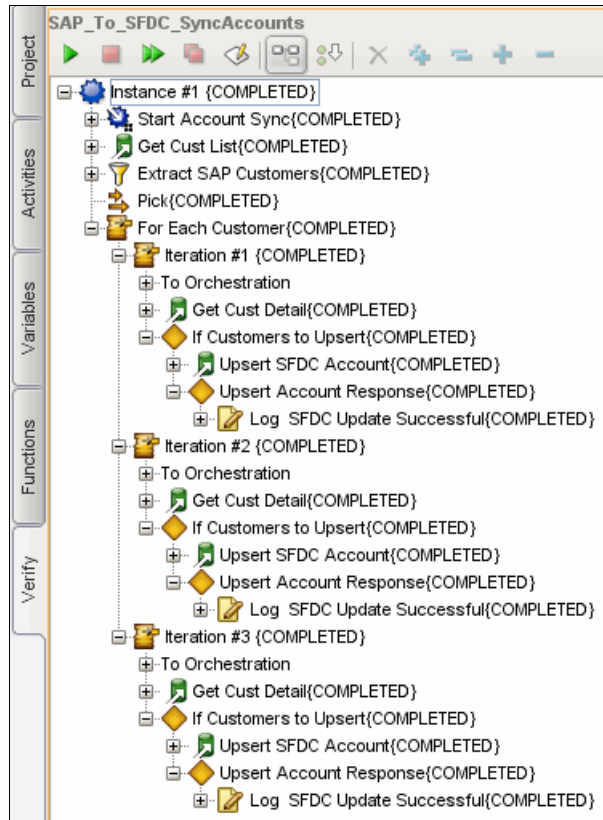

Figure 10-58 Successful test
3. Take a look at the output of the orchestration. As shown in Figure 10-58 on page 393, the orchestration processed three SAP accounts and inserted or updated them to Salesforce.com successfully.